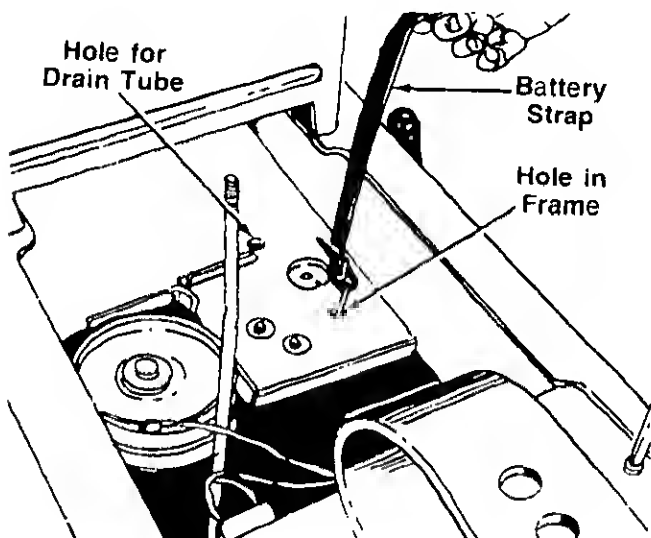
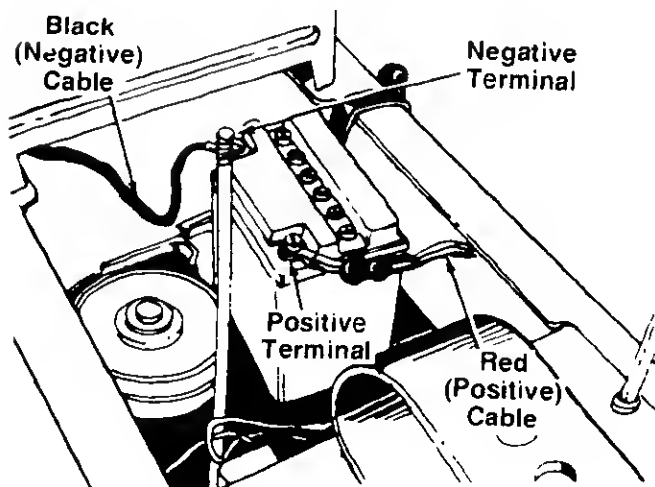

FIGURE 7.
FIGURE 8.
5. Hook one end of the battery strap into the hole provided in the frame. See figure 7. Lay the strap over the side of the frame.
6. Set the battery in the lawn tractor so that the negative terminal is toward the front of the unit. See figure 8. Place the end of the drain tube into the hole in the frame shown in figure 7.
7. Slide the square nut (provided with battery hardware) into the positive (+) terminal. Place the positive (heavy red wire) cable on the positive terminal. Secure with screw provided. See figure 8.